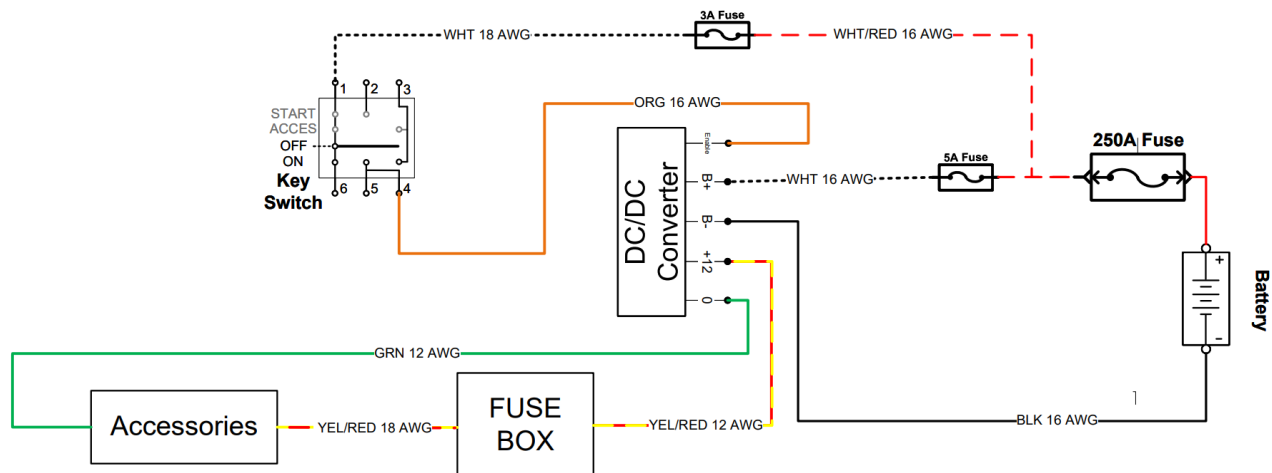

Figure 62. DC/DC Converter Input and Output Terminals Inspection.
2. 1. Check for the presence of voltage between the positive terminal (**B+**) (White Wire) and the negative terminal (**B-**) (Black Wire) of the DC/DC converter (As shown in Figure 62).
2. 2. Check for the presence of voltage between the orange wire and the negative terminal (**B-**) (Black Wire) of the DC/DC converter (As shown in Figure 62).
3. 1. Check for the presence of voltage between the yellow/red wire and the green wire of the DC/DC converter (As shown in Figure 62).